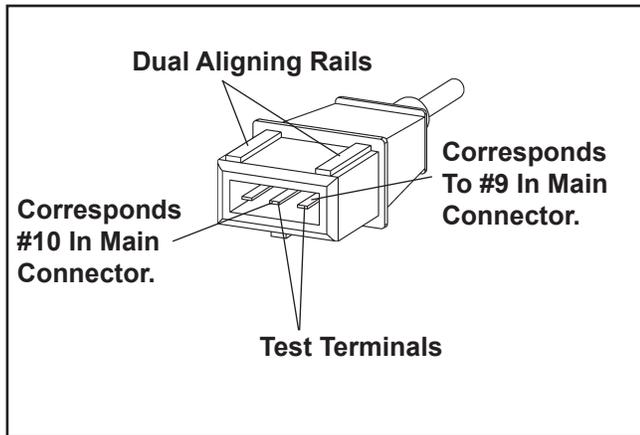

Figure 5B-3. Speed Sensor Connector.
6. Disconnect the speed sensor connector from wiring harness. It is the connector with one heavy black lead (see Figure 5B-3). Viewing the connector as shown (dual aligning rails on top), test the resistance between the terminals indicated. A reading of **750-1000 Ω** should again be obtained.